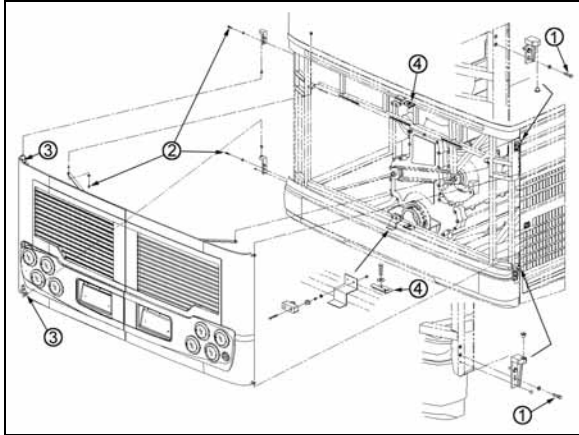

FIGURE 30: ENGINE COMPARTMENT DOORS 18633
1. Loosen the bolts, (1, 2 Fig. 30) holding the hinge to the vehicle structure to shift the door "UP or DOWN".
2. Loosening the bolts (3, Fig. 30) allows the door to be shifted "LEFT or RIGHT" and "IN or OUT".
To adjust the latch mechanism (4, Fig. 30) and the striker pin: